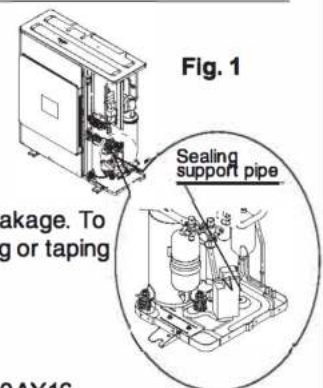

Fig. 1
- In accordance with the foundation drawing in **Fig. 1**, fix the unit securely by means of the foundation bolts. (Prepare 4 sets of M8 or M10 foundation bolts, nuts and washers each which are available on the market.)
- Fix the outdoor unit to the foundation bolts using nuts with resin washers. (See **Fig. 1**)
- Make sure to take out the sealing support pipe, before have refrigerant piping work. (See Fig. 1)